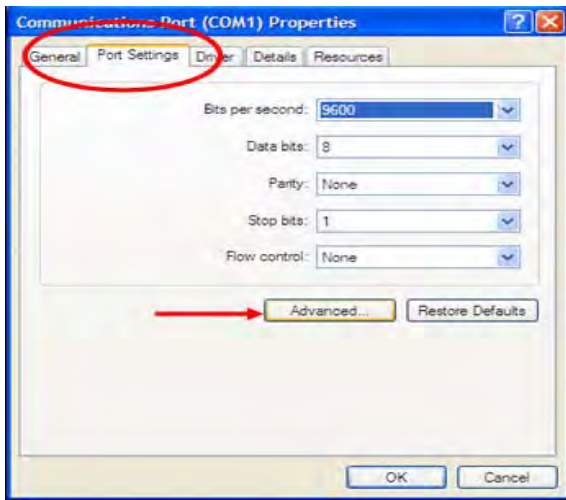

Figure 6
7. In the Properties window select the **Port Settings** tab and then click the **Advanced...** button. (Figure 6)